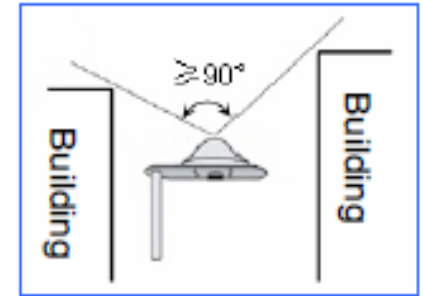

Figure 1
1. The GPS antenna should be installed in an open space and is far from high buildings. The GPS antenna has a vertical visual angle no less than  $90^\circ$ , as shown in Figure 1.